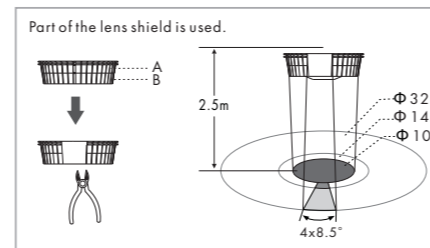

FIG. 16
4.2.1 PD00F01KNX has provided 3 lens shields for masking the undesired detection area (See FIG. 16).
● The shadow part of the lens shields in the FIG. 16 is referring to the cutoff parts.